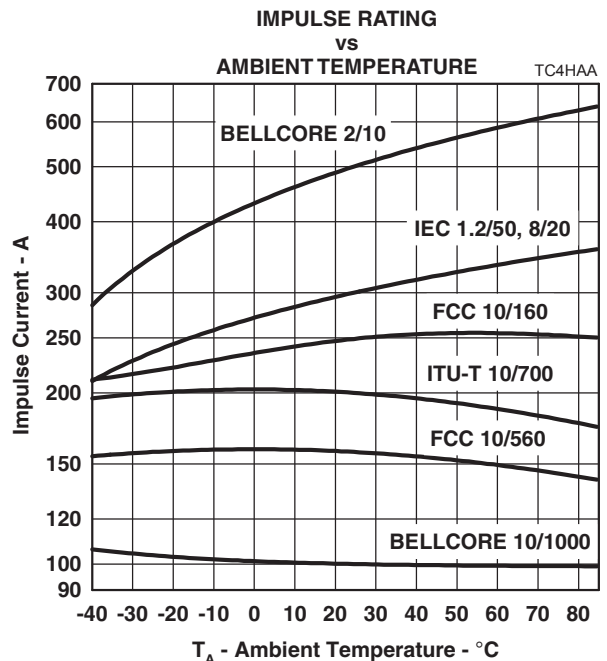

Figure 10.
4. See Figure 10 for impulse current ratings at other temperatures. Above 85 $^\circ\text{C}$, derate linearly to zero at 150 $^\circ\text{C}$ lead temperature.
If the impulse generator current exceeds the protector's current rating, then a series resistance can be used to reduce the current to the protector's rated value to prevent possible failure. The required value of series resistance for a given waveform is given by the following calculations. First, the minimum total circuit impedance is found by dividing the impulse generator's peak voltage by the protector's rated current. The impulse generator's fictitious impedance (generator's peak voltage divided by peak short circuit current) is then subtracted from the minimum total circuit impedance to give the required value of series resistance. In some cases, the equipment will require verification over a temperature range. By using the rated waveform values from Figure 10, the appropriate series resistor value can be calculated for ambient temperatures in the range of -40 °C to 85 °C.